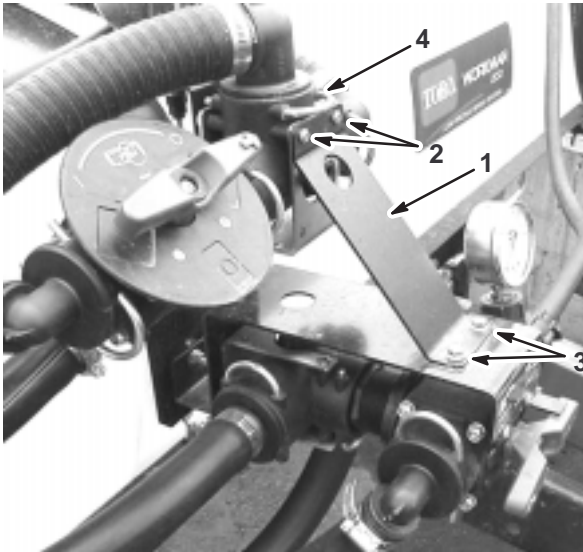

Figure 8
5. Remove the 2 screws securing the upper tee and install the support bracket (Fig. 8) using the screws, 2 flange-head bolts (1/4 x 3/4 inch,) and 2 flange nuts (1/4 inch).